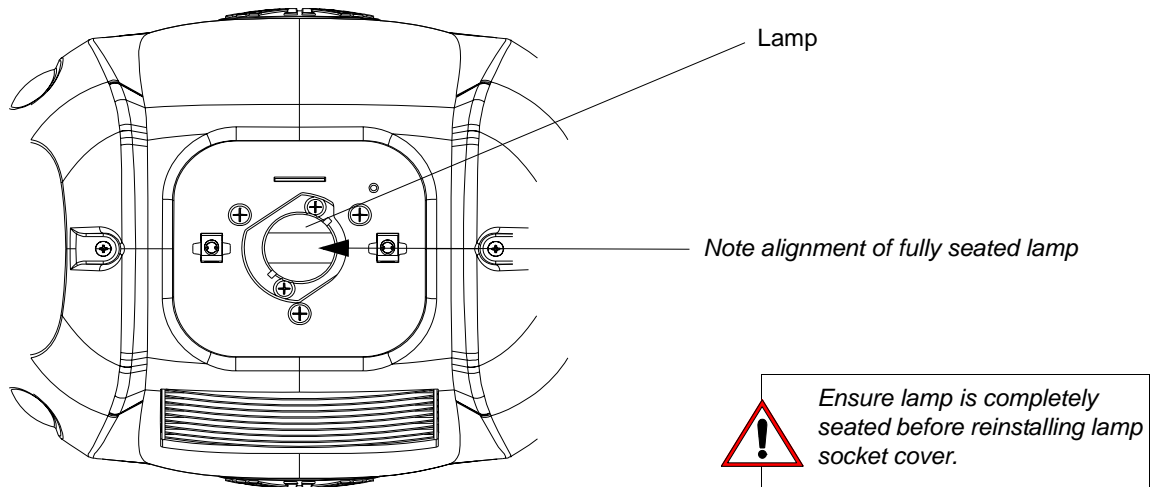

Figure A-3: Installed Lamp
Step 8. Turn lamp clockwise to seat lamp into socket. Lamp base should be aligned as illustrated in Figure A-3.